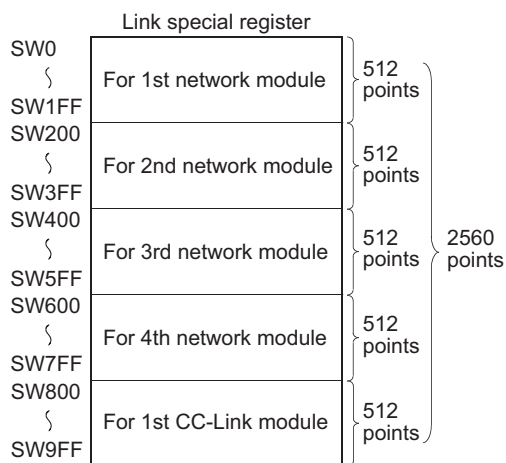

Figure 9.43 Points of the link special register
By assigning it as shown in Figure 9.43, data of the link special register (SW) in a CC-Link module can be also refreshed to the link special register (SW) in the CPU module.